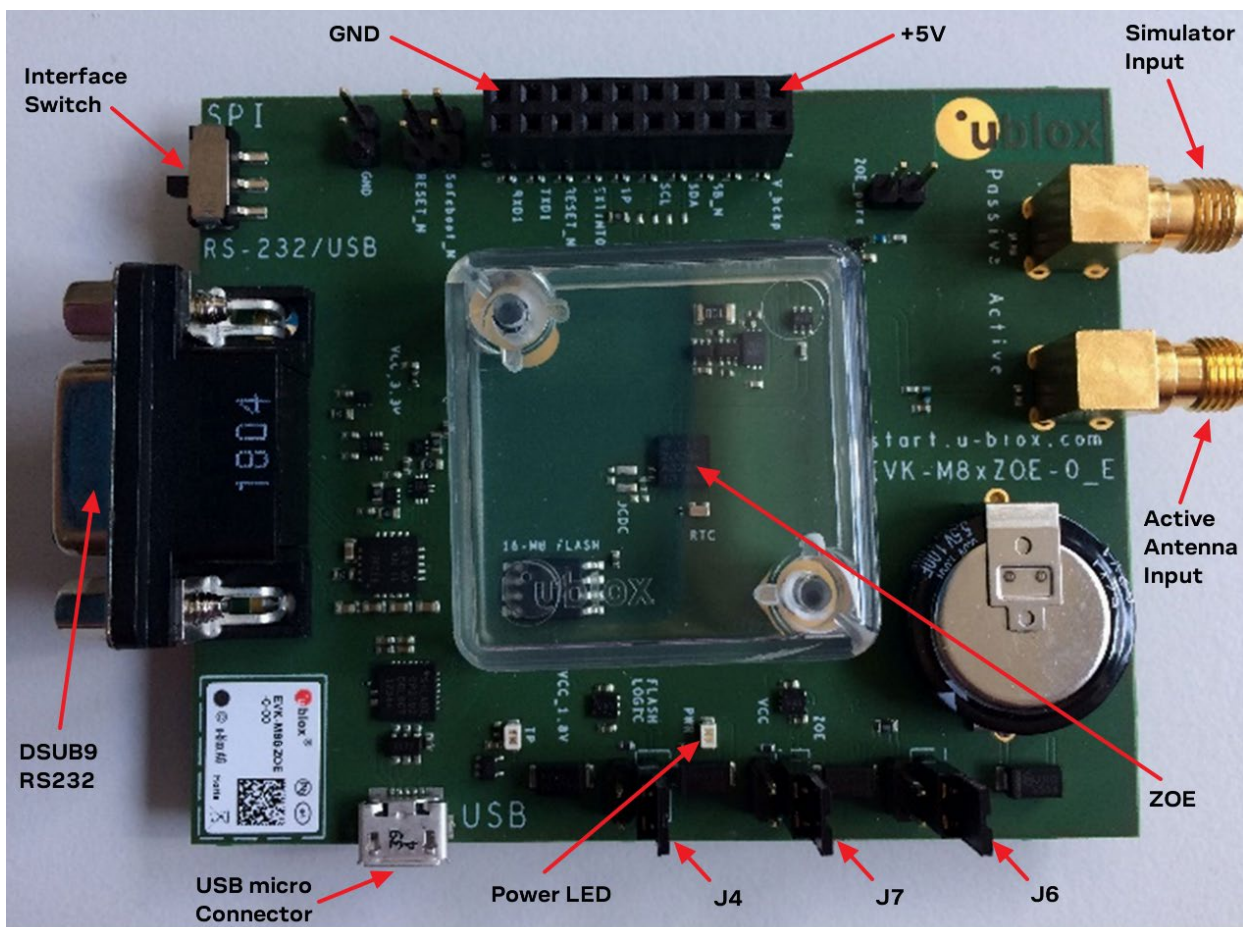

Figure 1: Getting started overview
This section describes the evaluation board connectors and configuration settings that are required to get started. Figure 1 shows an overview of EVK-M8GZOE board and its connectors.
- The green LED (Power LED in Figure 1) is turned on when power supply is connected.
The EVK-M8GZOE board must be supplied either by the micro USB connector or by an external 4.5 V – 5.5 V power supply connected to digital connector pin 2 and GND to pin 18. See Figure 1.
The interface switch has to be set according to whether the UART (RS232/USB) and DDC (I2C) or the SPI interface is to be used. See Figure 1 for location of interface switch.